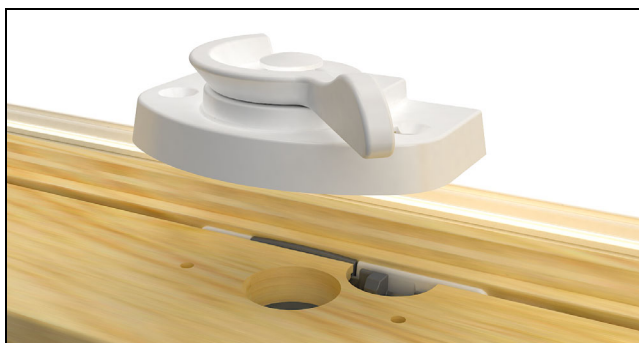

Figure 77
3. Lift lock off of sash, finish as desired. See Figure 77